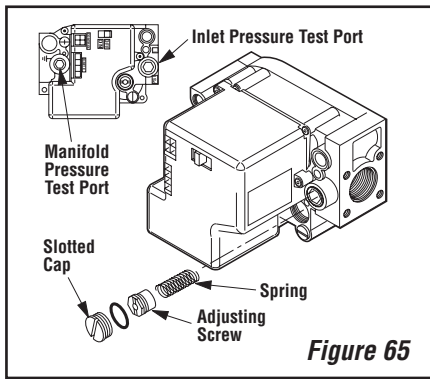

Figure 65
Step 4. Honeywell Electronic Valves - See **Figure 65** and the instructions provided with the kit. Remove the slotted cap screw, o-ring, pressure-regulating adjusting screw and spring. Retain all parts for possible later use. Install new components from the kit. Black cap and red spring for propane gas units. Silver cap and stainless steel spring for natural gas units. Before installing the cap, attach manometer to the manifold side pressure test fitting and adjust screw until pressure reads 3.5 inches water column (0.87 kPa) for natural gas, and 10.0 inches water column (2.49 kPa) for propane gas.